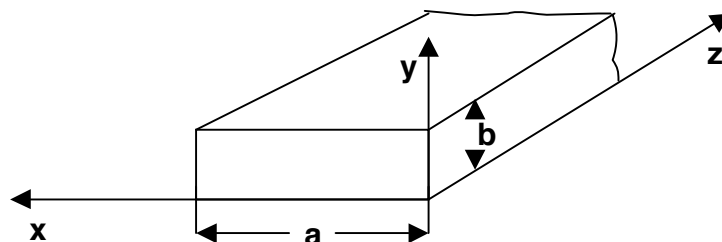

Figure 1: Coordinate system of a waveguide.
This lab examines the behavior of electromagnetic waves in a waveguide. A waveguide is a single hollow pipe (rectangular, circular, etc.) with no center conductor as illustrated in Figure 1. Hollow metallic waveguides are used as transmission lines at higher frequencies, typically ≥ 5 GHz. They have the following advantages and disadvantages:
wavelengths of the traveling wave that can fit into the respective x and y dimensions of the waveguide, as shown in Figure 1, so that the cutoff frequency f_c becomes (3),(8.106)[1].